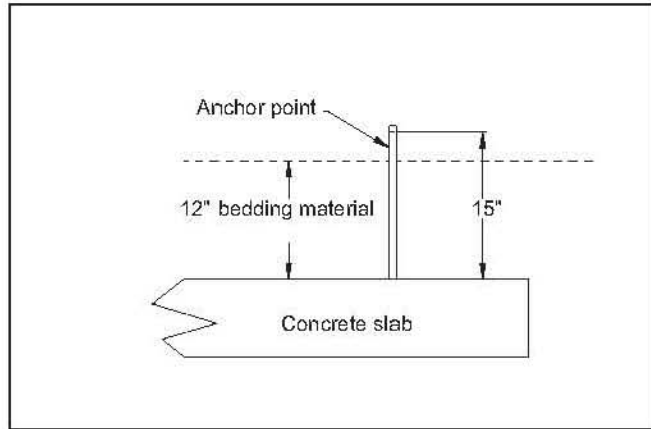

FIGURE 8-7
8.6.7. Refer to FIGURE 8-7 for anchor-point height. Refer to TABLE 8-1 or TABLE 8-2 for other anchor-point dimensions.
8.6.8. When using a concrete anchor slab, allow sufficient depth in the excavation for 12 inches of bedding material between the tank and the anchor slab. See FIGURE 8-7.